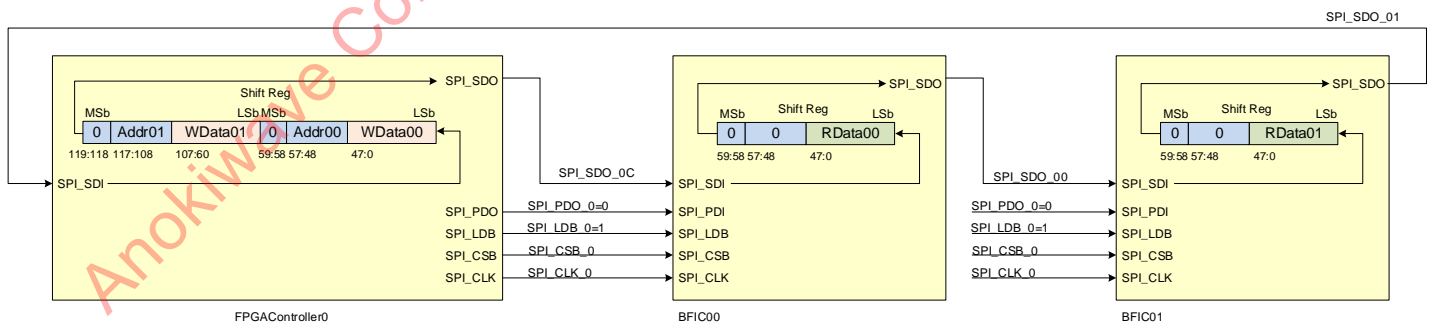
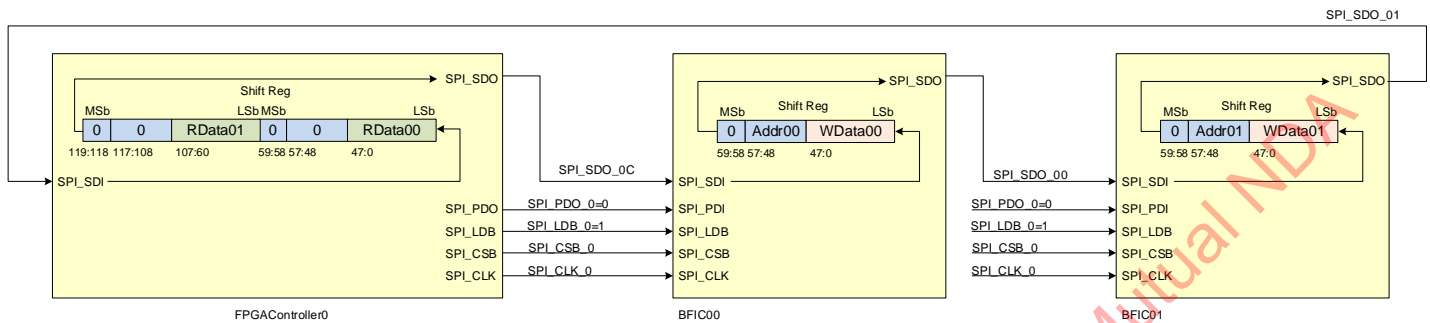
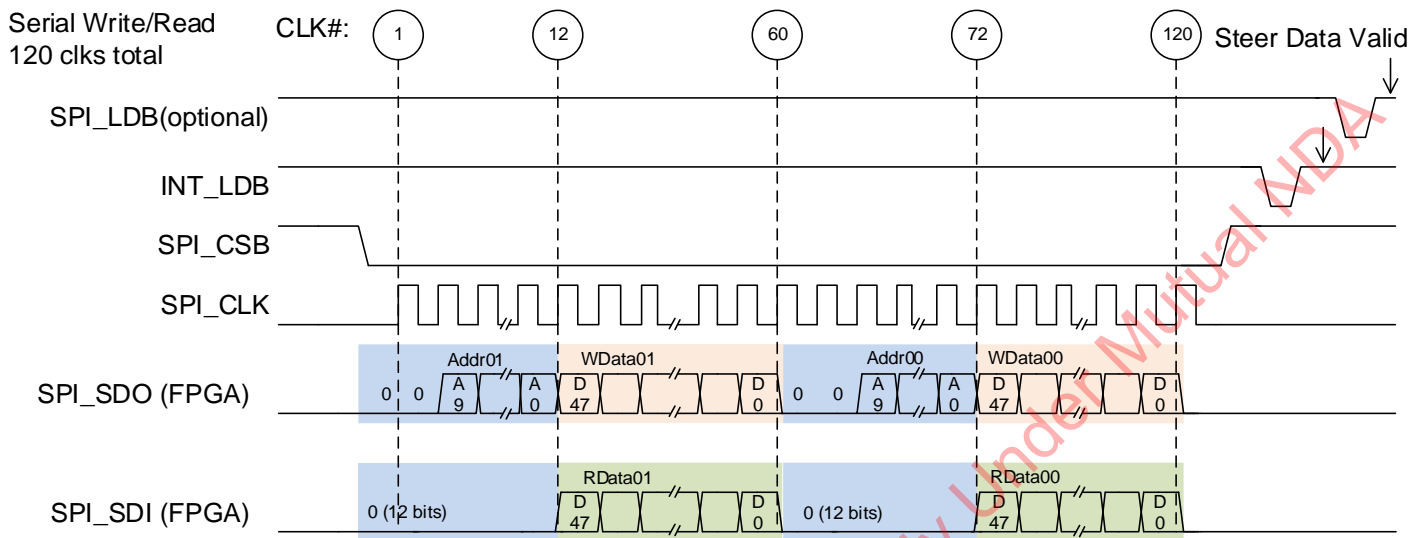

Figure 4: Shift register contents before Serial SPI Transaction
Figure 5: Shift register contents after Serial SPI Transaction (120 SPI_CLKs)
Figure 6: Timing diagram for a two IC Serial Write/Read transaction
A Serial Write/Read transaction with a controller and two ICs is illustrated in Figure 4 and Figure 5. At the start of the transaction, the controller IC has the address and data ready to shift to each IC. Each IC has read data from the preselected register ready to shift to the controller. When the transaction is complete, each IC shift register contains the address and data from the controller, and the controller shift register contains the read data from the ICs. Both ICs latch (and act on) the control word and data at the completion of the transaction.
A timing diagram for the single IC serial-mode transaction is shown in Figure 6. The write starts with the falling edge of SPI_CSB. Data is shifted in MSbit first, starting with the control word followed by the data. The control word and data are provided for each IC in the serial chain, allowing unique values for each IC. A normal write concludes with SPI_CSB returning high (de-asserting). Data is latched following the rising edge of SPI_CSB. Additionally, the figure shows the optional SPI_LDB signal used in legacy applications. In this mode, a falling edge on SPI_LDB is used to latch the data into the target register, and then a rising edge of SPI_LDB to return it to its high idle level. Note: MODE register bit 22 (spi_ldb_en) controls LDB behavior. By default, a signal INT_LDB is internally generated following the rising edge of SPI_CSB, and the SPI_LDB pin is ignored. If spi_ldb_en is set to 1, INT_LDB is ignored, and SPI_LDB is used to latch the register data. There is typically 40ns settling time for the steer data to become valid, after the rising edge of SPI_CSB, when INT_LDB is used, indicated by the arrows in Figure 6. SPI_LDB should be connected on the PCB, for backward/forward compatibility, and must be driven to 0 when spi_ldb_en=0. If SPI_LDB is used, there is typically a 30ns settling time.
Refer to Figure 4, Figure 6 above. There are two BFICs in the daisy chain in this example, so the FPGA shift register length = $2 * (12 + 48) = 120$ bits.
- 1) The initial state of the shift registers is shown above in Figure 4.
- a. FPGAController0 shift register shifts left. FPGAController0 latches (in LSbit of its shift register) the MSbit of read data from BFIC01 (0) from SPI_SDO_01. After tPDO (6ns max), SPI_SDO_0C settles to the value of bit 118 (MSbit-1).
- b. BFIC00 shift register shifts left. BFIC00 latches the MSbit of write data from FPGAController0 (0) from SPI_SDO_0C. After tPDO (6ns max), SPI_SDO_00 settles to the value of bit 58 (MSbit-1).
- c. BFIC01 shift register shifts left. BFIC01 latches the MSbit of read data from BFIC00 (0) from SPI_SDO_00. After tPDO (6ns max), SPI_SDO_01 settles to the value of bit 58 (MSbit-1).